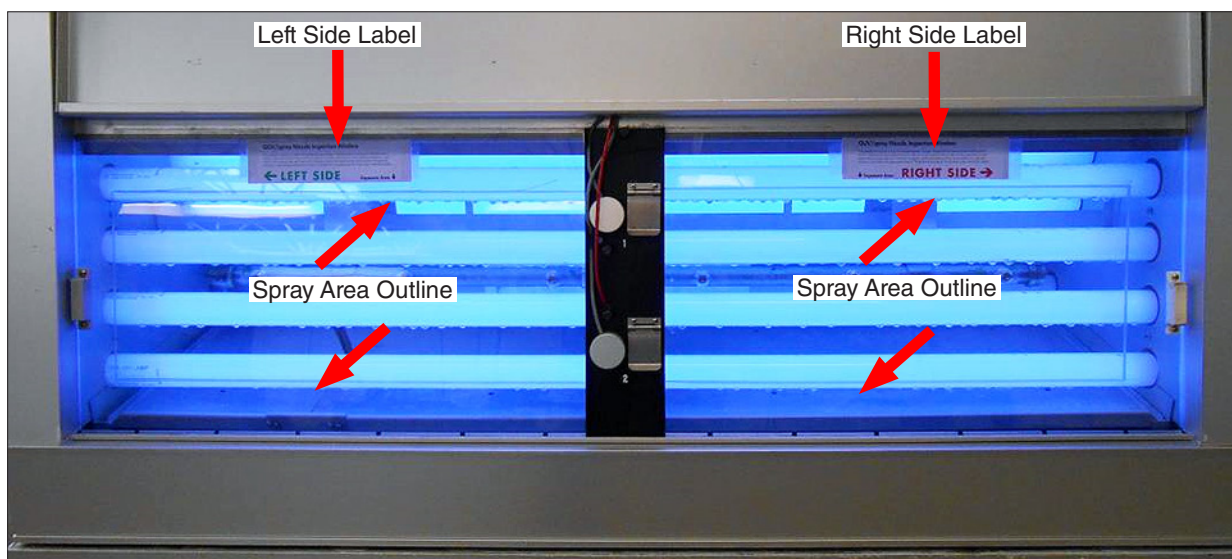

Figure 14.3a: Left side and right side spray inspection windows.
- Remove all test panels from one side of the QUV tester and put the left and right side inspection windows in place (Figure 14.3a).